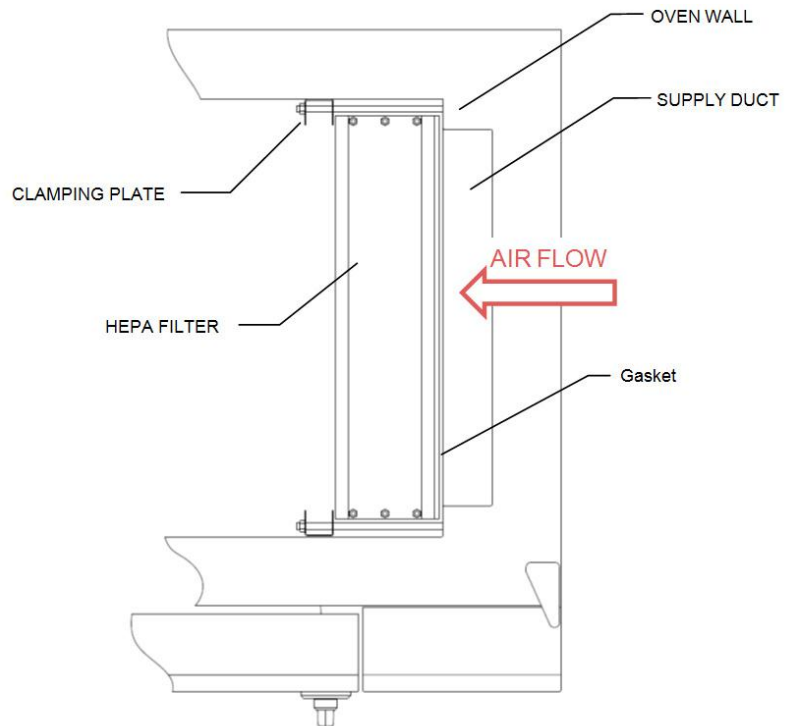

Figure 13. Install HEPA standard filter.
- i. Place the filter with the gasket set against the oven wall (Figure 13).